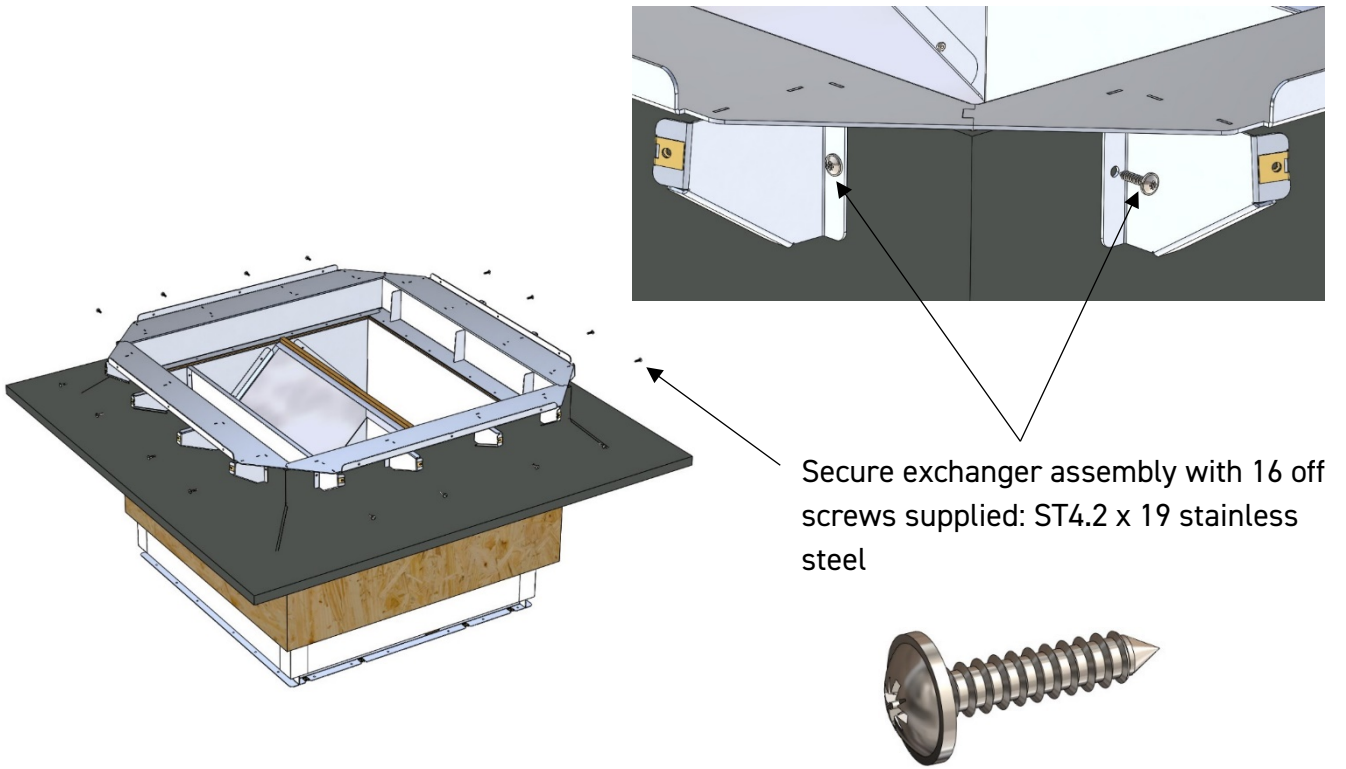

Figure 15 - Screw fixing location for the heat exchanger.
3. Align screws with the holes in the heat exchanger and fix the heat exchanger frame to the timber upstand. Using the 16 number ST4.2 stainless screws supplied (4 per side in locations as shown in *figure 15.*